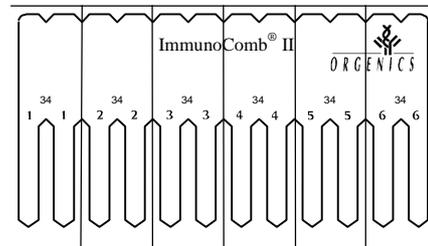

Figure 4. Breaking the Comb
- b. Bend and break the Comb vertically or cut with scissors (see Figure 4) to detach the required number of teeth pairs (No. of tests including 2 controls). Do not separate paired teeth.